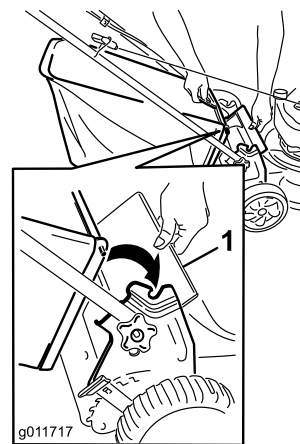

Figure 19
1. Lift up the rear deflector (Figure 19).
2. Insert the grass bag handle onto the notches on the handle brackets (Figure 19).